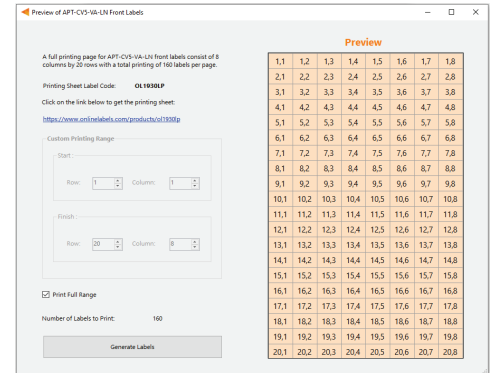

Figure 21: Label generation print preview window
- 4 Input the starting and finishing rows and columns that will fit on the back or front labels. The selected range is highlighted in blue (Figure 21).